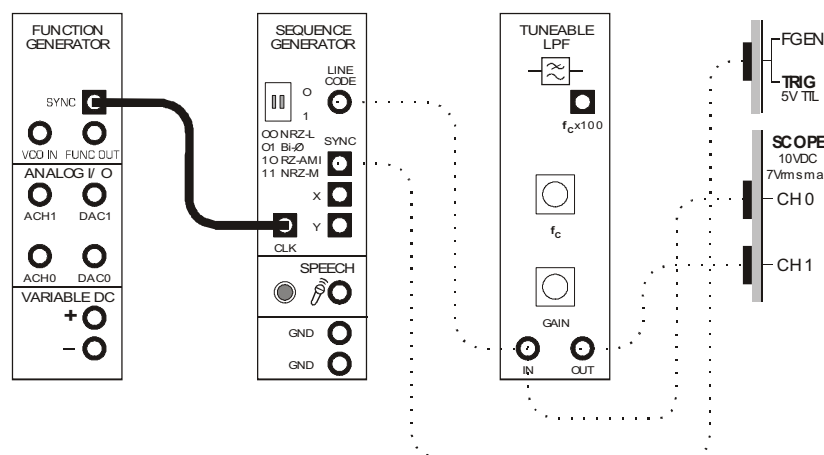
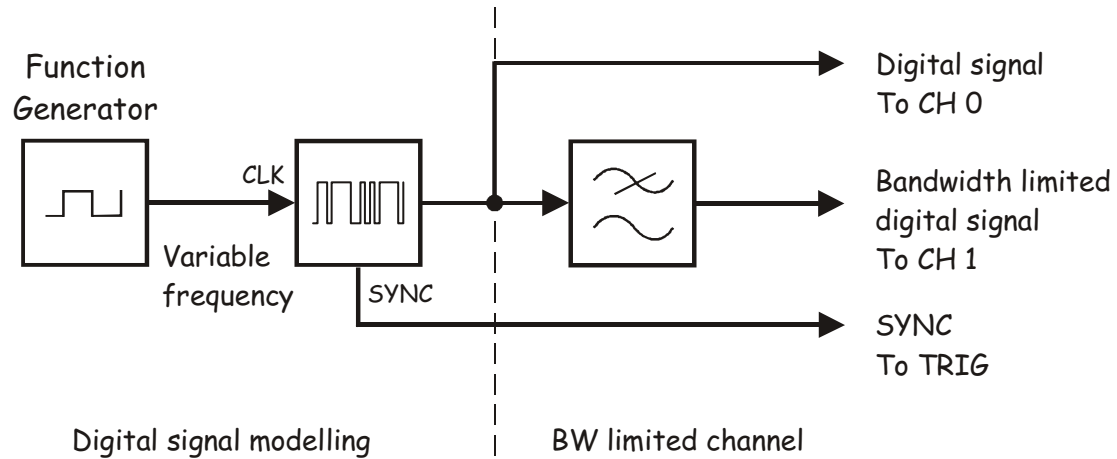

Figure 9
Figure 10
45. Modify the set-up as shown in Figure 9 below.
The set-up in Figure 9 can be represented by the block diagram in Figure 10 below. Notice that the Sequence Generator module's clock is now provided by the function generator's output and so it is variable.